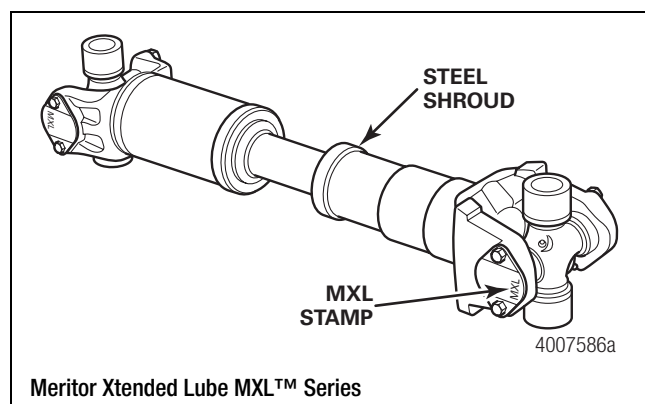

Figure 4.17
- The slip yoke seal includes a protective steel shroud to improve sealing and retain seals securely in place. Figure 4.17.
- The universal joint cover plates are stamped "MXL." Figure 4.17.